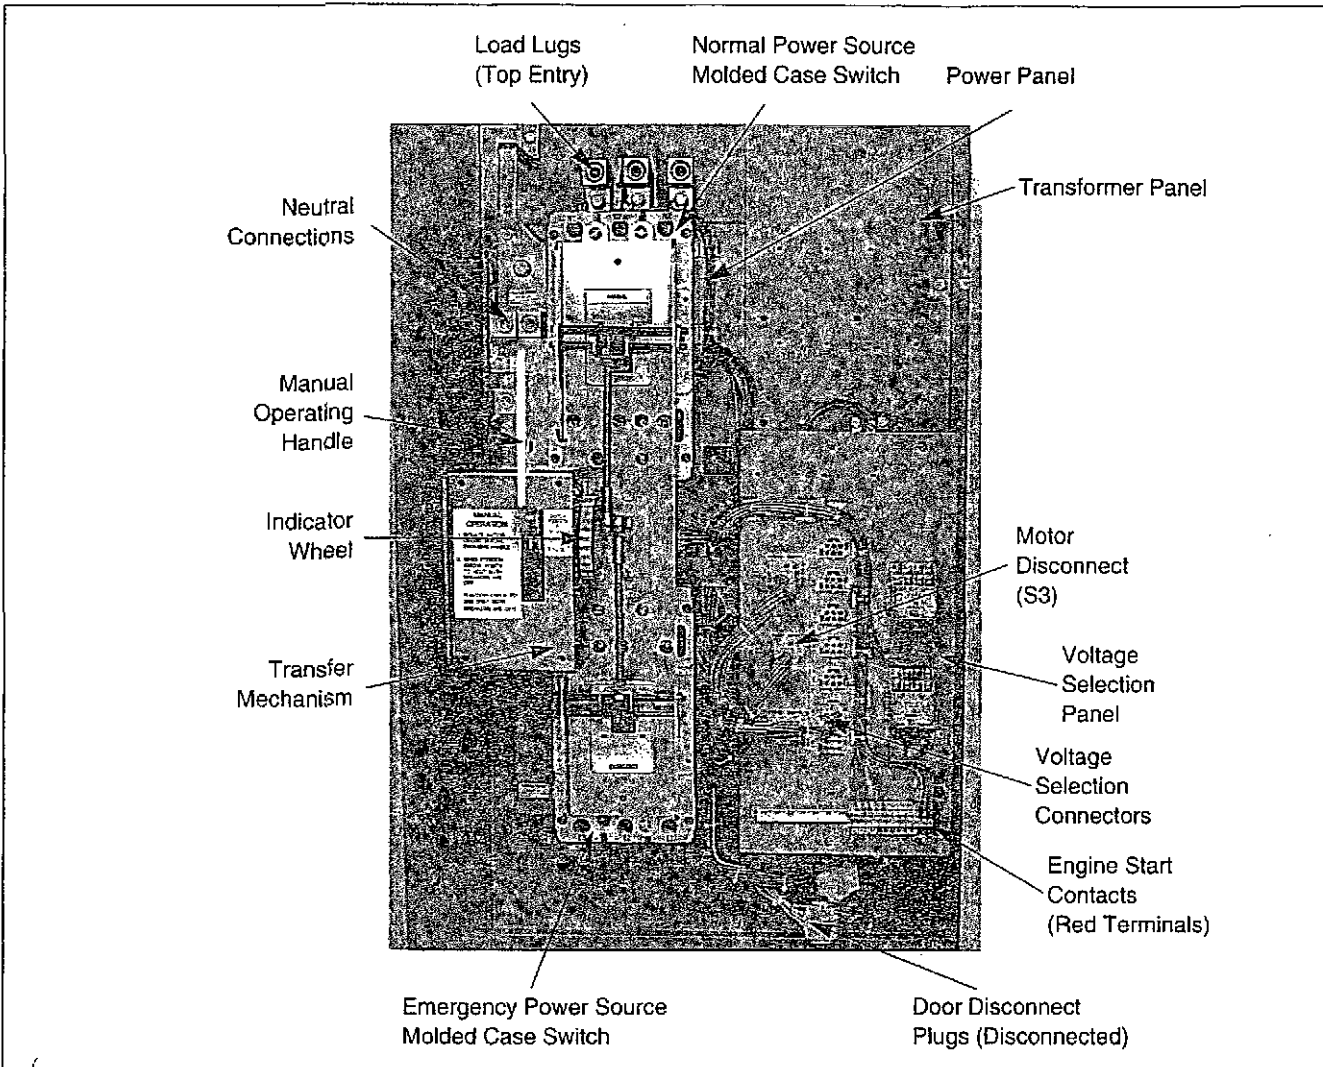

Figure 4-3 Typical (225-1000 Amperes) Vertical Design Transfer Switch Equipment (Door Open and Deadfront Shield Removed)
- Step 1:** Disconnect the power panel from the rest of the transfer switch by unplugging the connector plugs (P1, P2, and P3) (Figures 4-3).